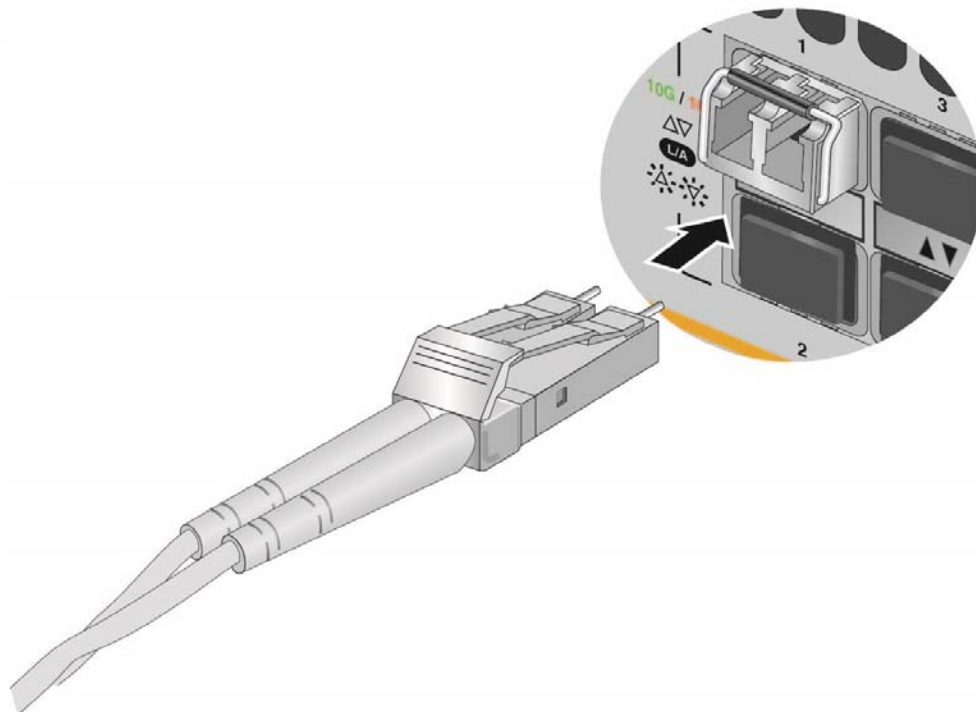

Figure 71. Connecting a Fiber Optic Cable to an SFP or SFP+ Transceiver
7. Connect the fiber optic cable to the transceiver, as shown in Figure 71. The connector on the cable should fit snugly into the port, and the tab should lock the connector into place.